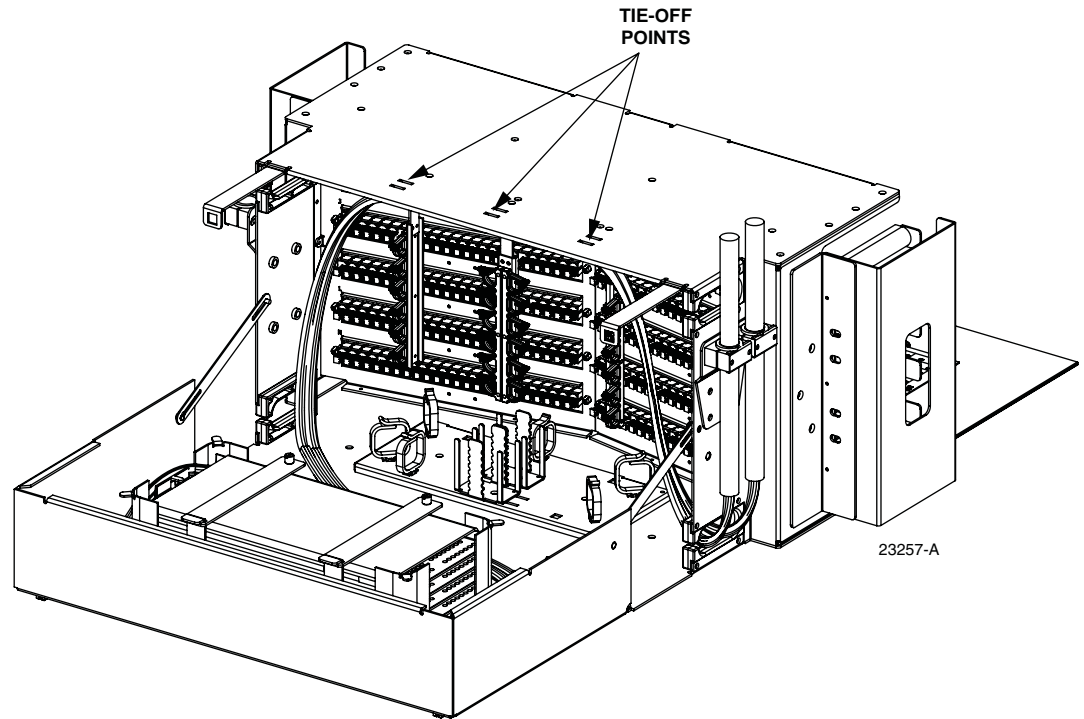
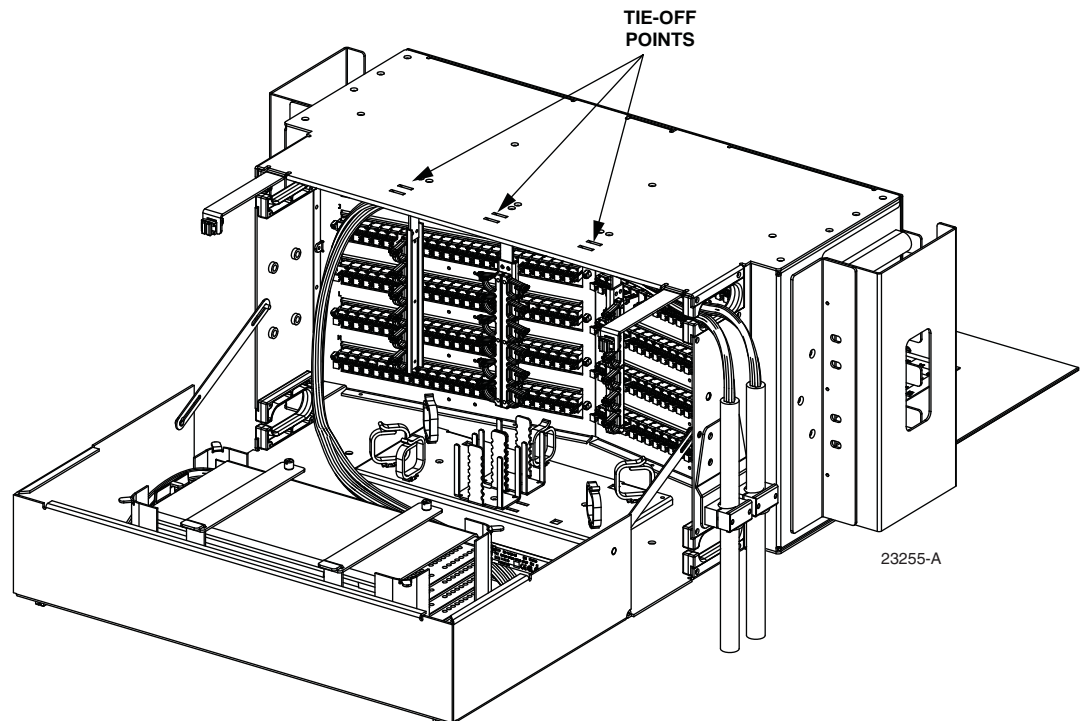

Figure 11. Cable Entry From Top
Figure 12. Cable Entry From Bottom
1. Route the cable from the entry hole horizontally across the top of the panel and then down to the splice tray access door as shown in Figure 11 (top entry) and Figure 12 (bottom entry). Secure the cable to the top of the panel using curleyloks at the tie-down points shown in the figures.